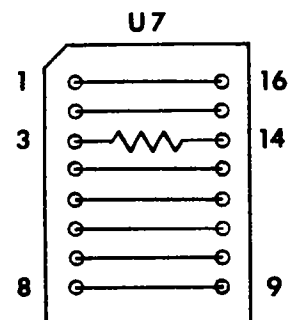

Figure 5-1 U7 Header
* For these signals to be present on J1, a header, wired as shown in Figure 5-1, must be inserted into socket labeled XU7. A 33K-1/4 W resistor is required from pin 3 to pin 14 on header to provide input filtering and protection.